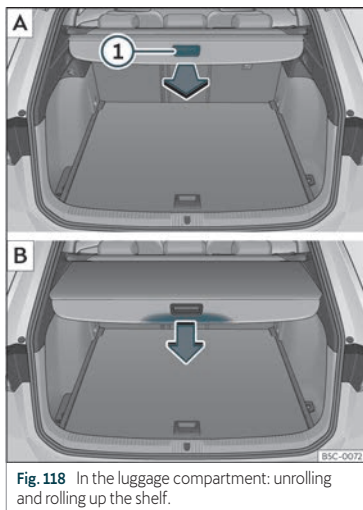

Fig. 118 In the luggage compartment: unrolling and rolling up the shelf.
- Pull evenly on the rear shelf using its handle»» **Fig. 118** ① **A** in a backwards direction until it audibly clicks into place.
- Press on the handle of the rear shelf in the direction of the arrow to release it»» **Fig. 118** **B**.